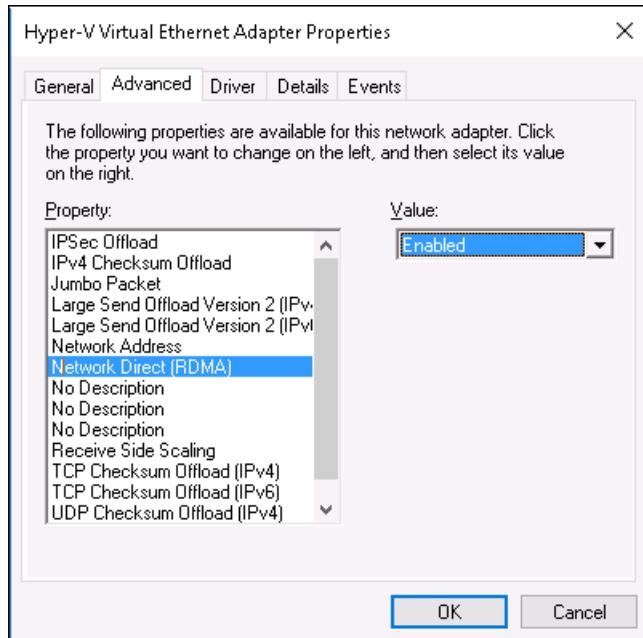

Figure 13-2. Hyper-V Virtual Ethernet Adapter Properties
3. On the Advanced page (Figure 13-2):